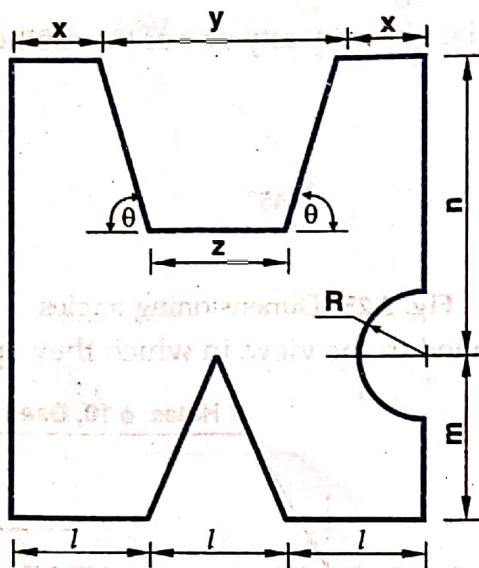

Fig 3.28
- 3.3 Fig 3.28 shows the view of an object. Redraw the view and give all the necessary dimensions.